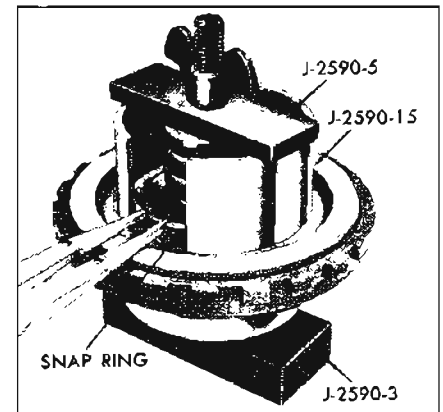

Figure 5-647
2. Using Clutch Compressor J-2590, compress the spring retainer and remove the snap ring. See Figure 5-647.